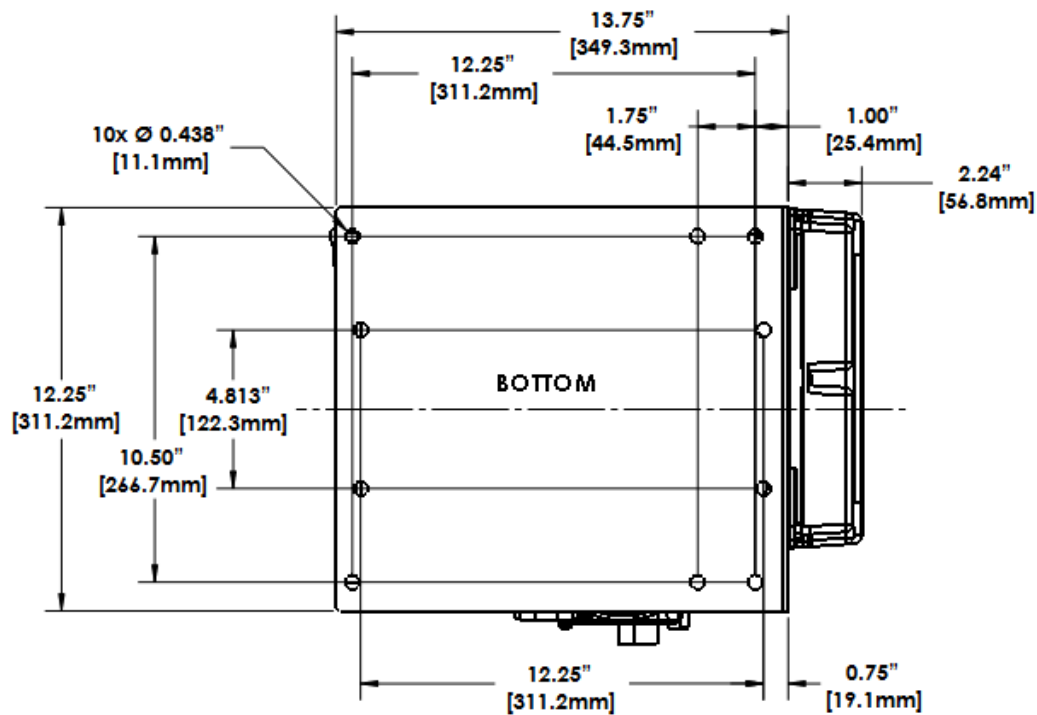

Figure 23: Base Plate Mounting Hole Locations – 1.7 and 2.1
**Figure 23** provides the mounting base dimensions for the SmartFOAM 1.7AHP and 2.1A foam pump and motor assembly.